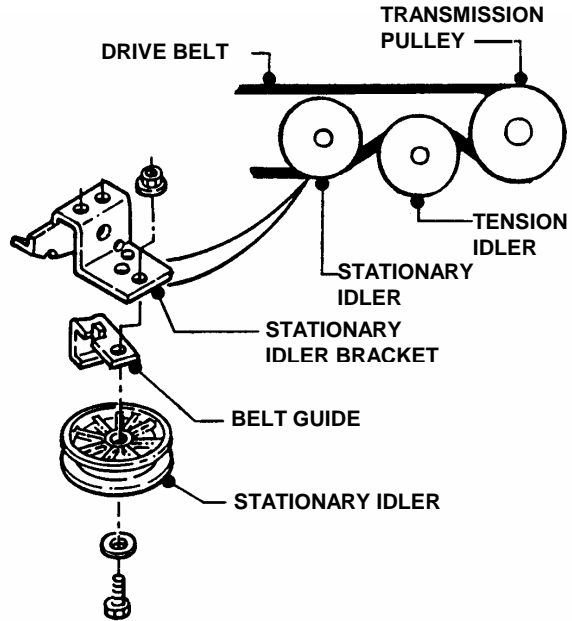

**FIGURE 4.34**
5. Remove traction drive belt from engine pulley top groove. See Figure 4.34.